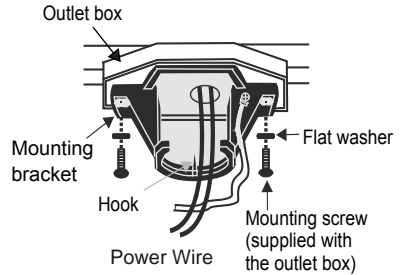

Fig. 3
- Step 1.** Pass the power wires through the center hole in the mounting bracket as shown in Fig. 3.